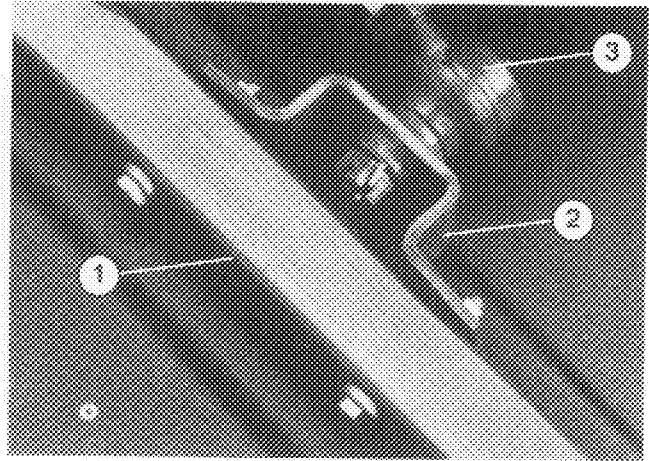

Figure 6
4. Secure ball joint mounts to each castor arm with (2) 7/16 – 14 x 3" lg. capscrews, 15/32" I.D. x 59/64" O.D. flatwashers and 7/16 – 14 flange nuts. Flatwashers to be positioned to outside of castor arm (Fig. 6).